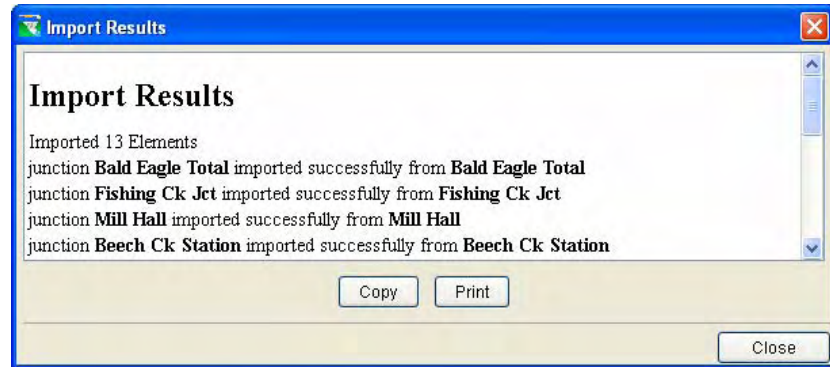

Figure 11.134 Import Results
9. After finishing with the Network Import process, a dialog box will appear summarizing the results of the import carried out. Check to ensure that all physical and operational data was successfully imported by reviewing the **Import Results** summary (Figure 11.134) and by viewing the various network element editors in the Reservoir Network module.